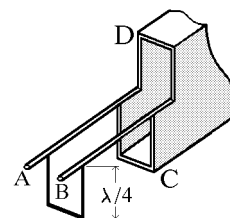

Fig. 4-20. Development of a waveguide
But suppose you used a pair of uninsulated wires (A and B in Fig. 4-20) held up by a wire loop, as shown at the left of the figure. If the wire loop was exactly ¼ wavelength long, then its top would appear open even though the bottom is shorted. In other words, a perfect insulator made of metal!
In practice, this is a tad tough to fabricate. But since you could place these wire loops as close together as you wanted, there is no reason why they cannot be made into the continuous trough shown as C in Fig. 4-20. To prevent rain water from collecting inside, we place another identical trough (D) above it, giving us a rectangular pipe called a *waveguide*. The signal simply travels along the inside edge of the pipe, roughly in the middle